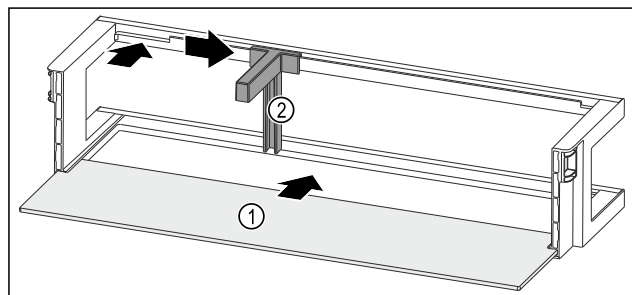

Fig. 176 Door rack with shelf
- Push the shelf *Fig. 176 (1)* into the side recesses.
- Insert the bottle holder *Fig. 176 (2)* in the recess.
- Push the bottle holder *Fig. 176 (2)* to the desired position to the side.